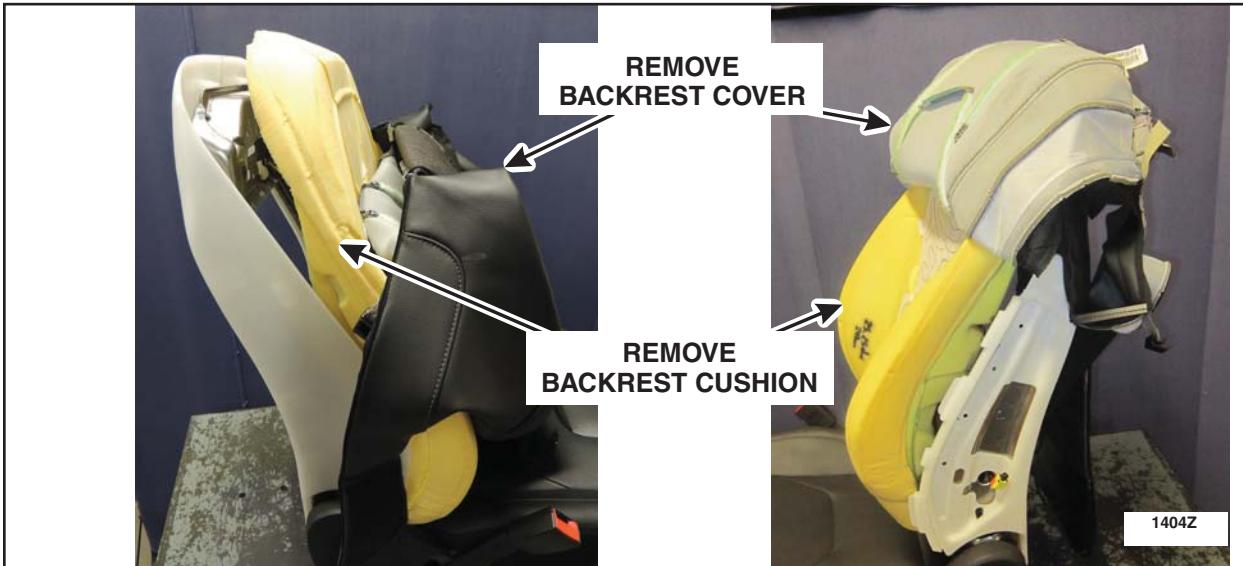

FIGURE 7
10. Lift the seat backrest cover up and over the hard back panel and remove the seat backrest cover and cushion. See Figure 7.